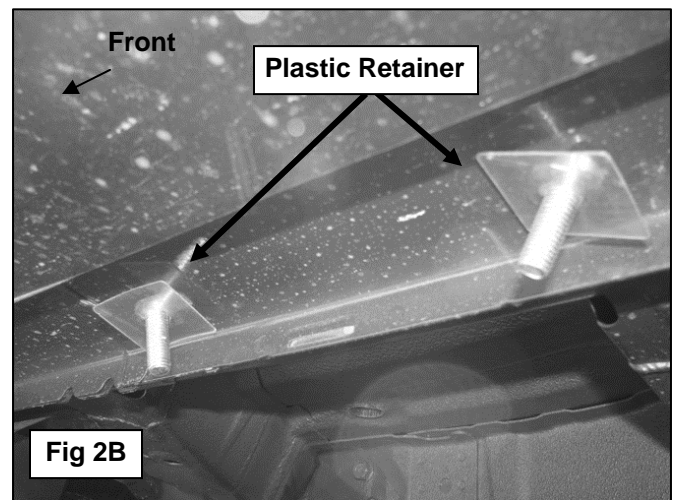
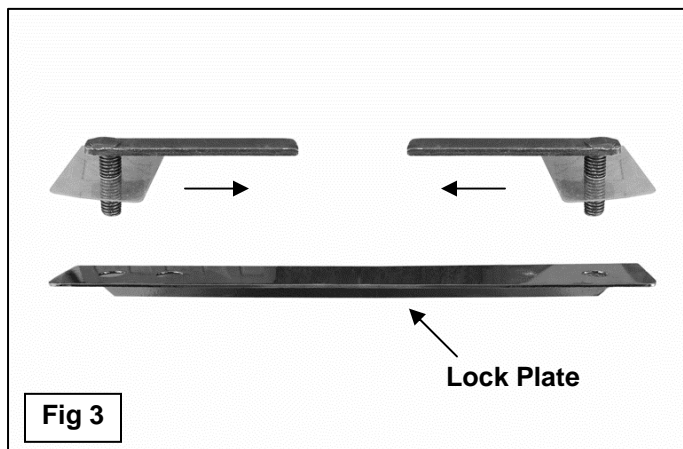

Fig 2B
Fig 3
- Insert (1) Bolt Plate into the first-forward hole with the plate pointed toward the rear of the vehicle, **(Figure 2B)**. Thread the Plastic Retainer down tight against the body panel. Repeat to install the next Bolt Plate into the second hole with the Plate pointed toward the front of the vehicle, **(Figure 3)**. **IMPORTANT:** The Plates on the (2) Bolt Plates must be pointed toward each other.
5. Select (1) Lock Plate, **(Figure 3)**. Slide the Lock Plate over the (2) Bolt Plates with the bent side toward the pinch weld. Attach the Lock Plate to the rear Bolt Plate only with (1) 10mm Flat Washer, (1) 10mm Lock Washer and (1) 10mm Hex Nut, **(Figure 4)**. Tighten the Hex Nut at this time.